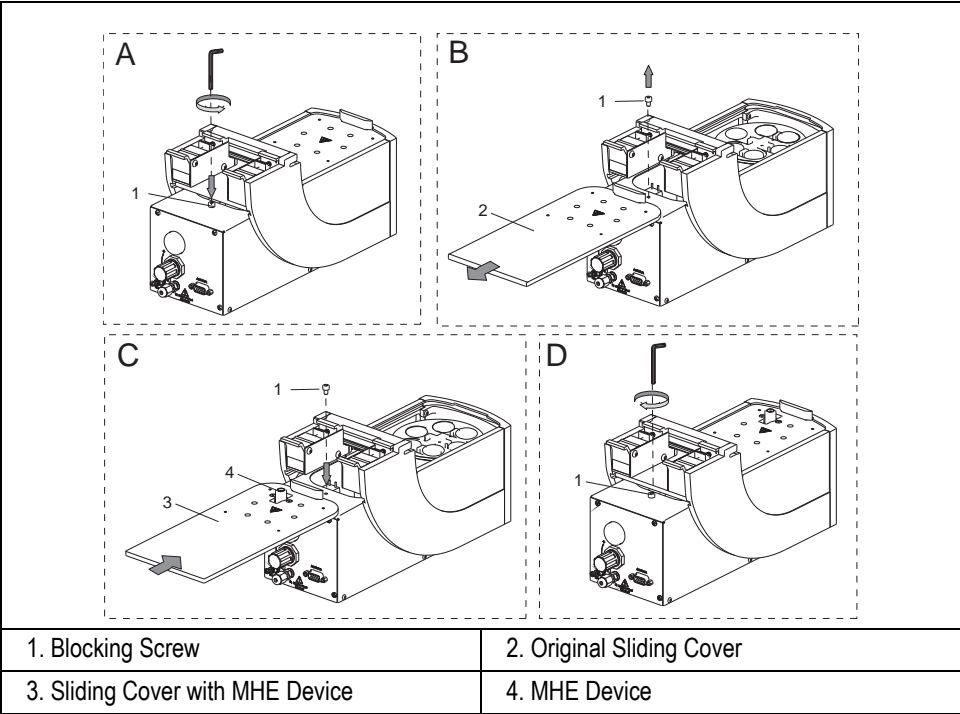

Figure 2-36. Incubation Oven Sliding Cover Replacement
3. Slip off the sliding cover. See **B** of Figure 2-36.
4. Replace the sliding cover with the one's provided with the MHE device. See **C** of Figure 2-36
5. Reinsert and screw the blocking screw. See **D** of Figure 2-36.